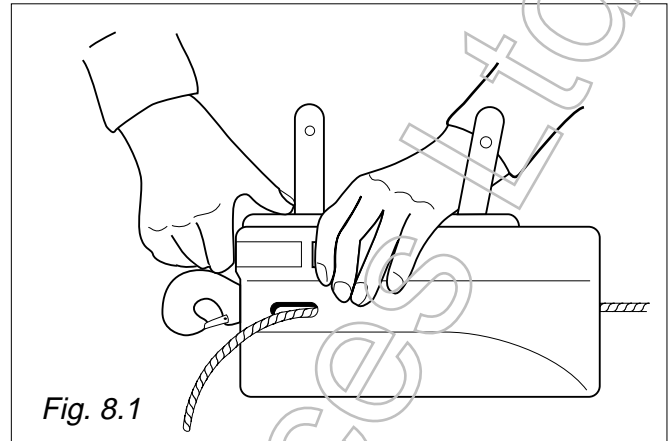

Fig. 8.1
Releasing : Release the rope release catch by pushing it against the machine and then pressing in the two catches on either side of the machine. Then pull the rope release catch outwards. (Fig. 8.1).
- release the rope release catch which should come out from the machine (pull it if necessary). (Fig. 8.1) ;